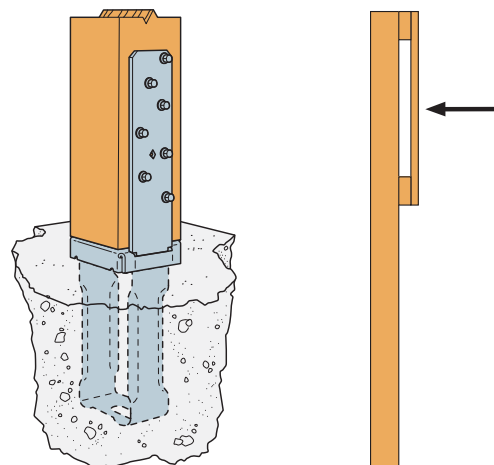

Figure 1 — Post Base with 1" Standoff
- For post bases with 1" standoffs, full bearing on concrete is required. Standoffs shall bear on top of concrete and not be embedded into wet concrete. A higher download may be achieved by solidly packing grout in the 1" standoff area before installation of the post. Factored download resistances shall be based on the capacity of the post, grout or concrete according to the code. (Figure 1)